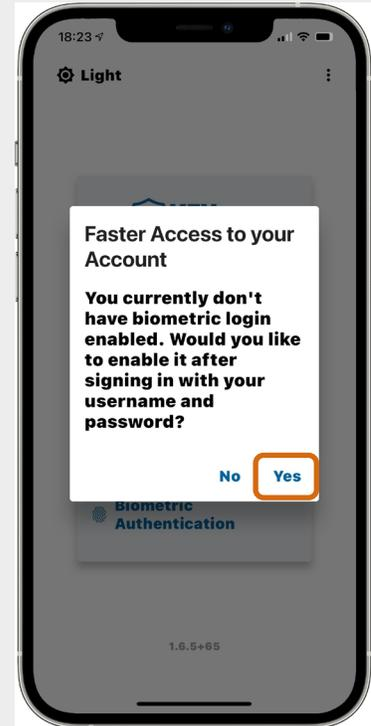

Fig. 23 – Biometric authentication window with Yes button indicated
3. On the window that appears, tap **Yes**, shown in Fig. 23, to enable biometric authentication after you log in.